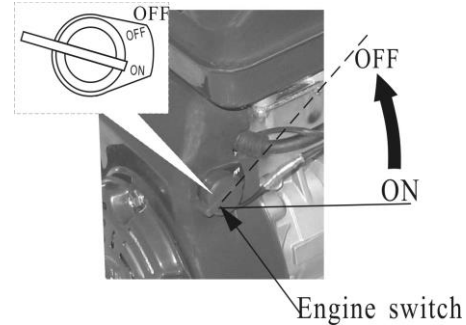

Fig.12
2. Push the engine switch to the OFF position (Fig. 12).